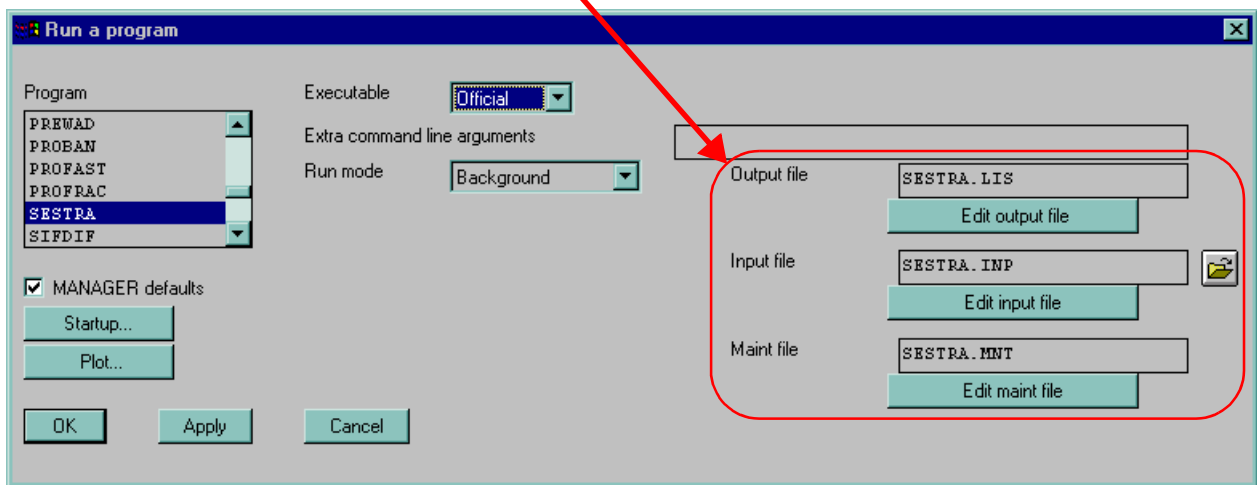

Figure 3.30 Running programs through Utility | Run
Giving **Utility | Run** opens the dialog box shown in Figure 3.30. The alphabetic list below refers to the figure.
- g The appearance of the **Utility | Run** dialog box will to some extent depend on the selected program. To exemplify this the dialog box for Sestra is also shown in Figure 3.30. The fields for **Database** and **Command Input File** are irrelevant and have been removed. Some new fields for input and output files appear.